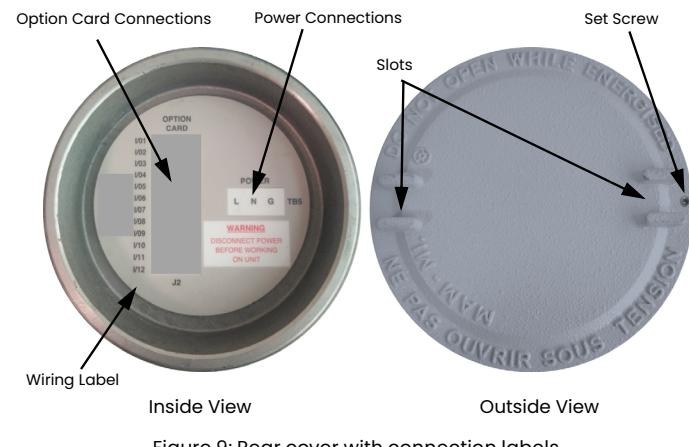
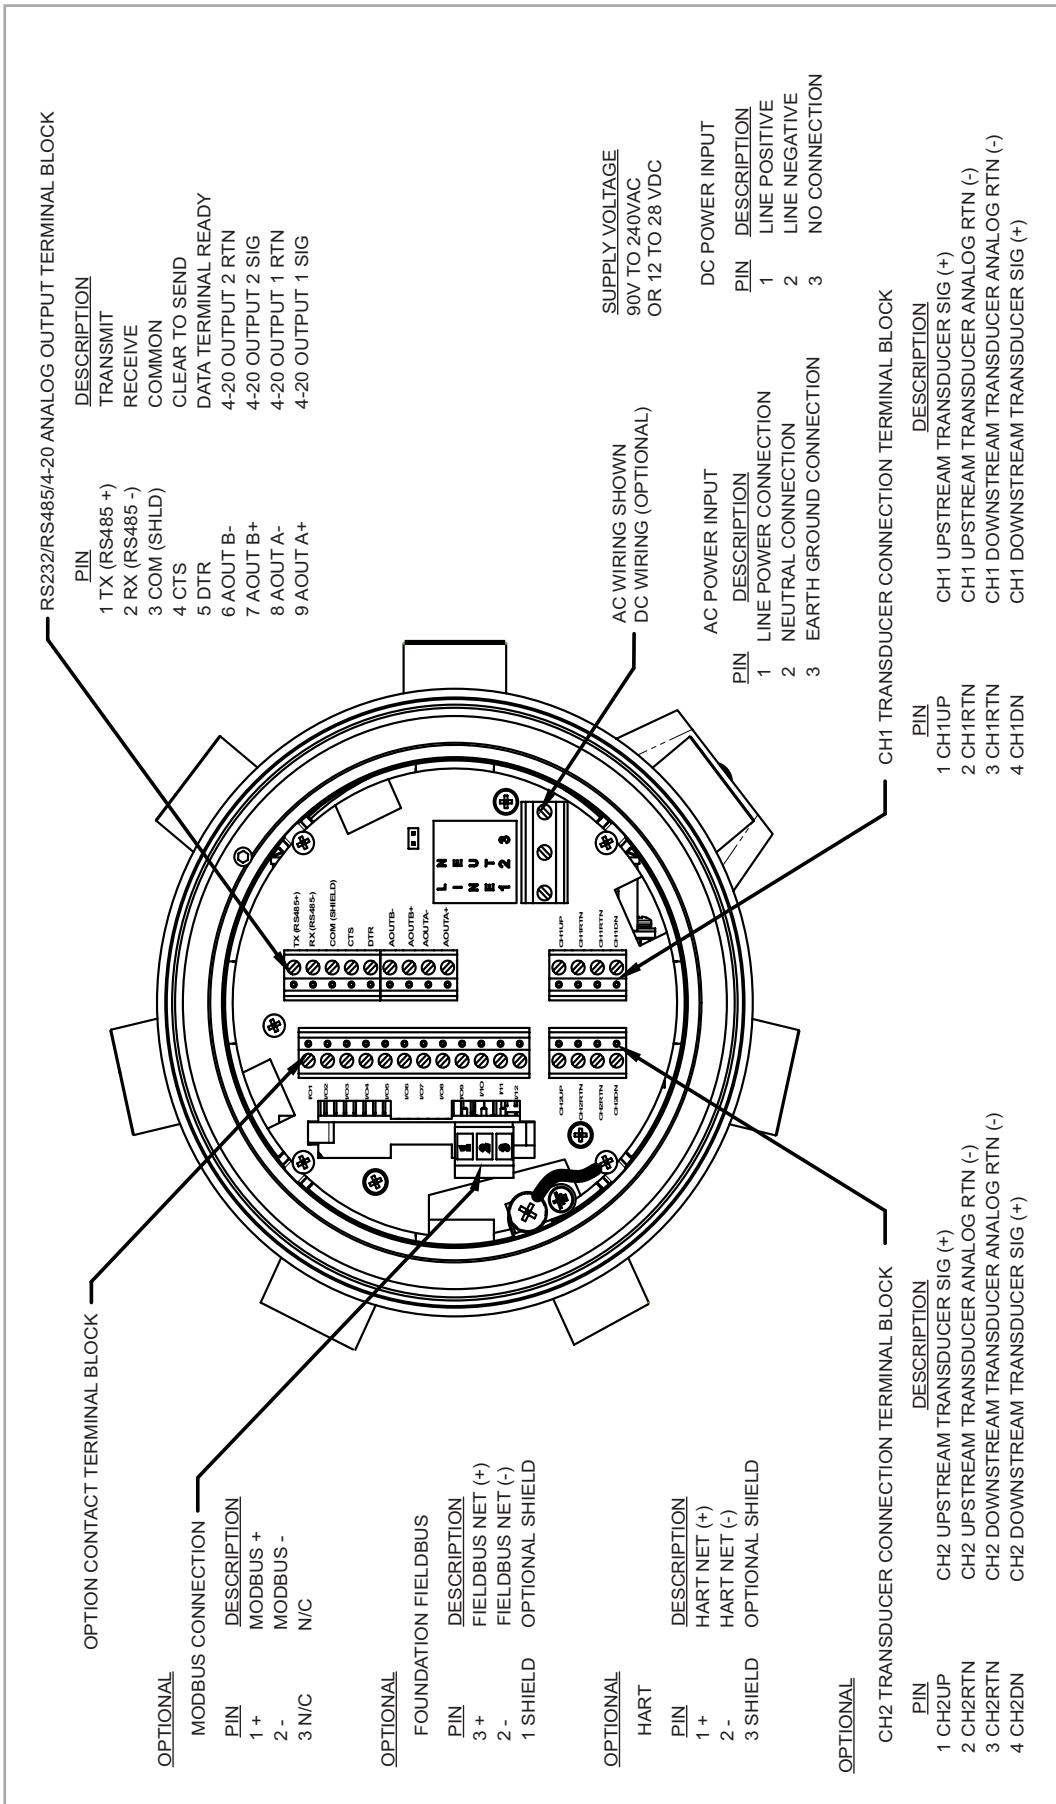

Figure 9: Rear cover with connection labels
Figure 13: Transmitter electronics - wiring diagram (ref. dwg. #702-1846)
To prepare the *PanaFlow ZIG/Z2G Process Gas Flowmeter* for wiring, refer to Figure 9 below, and complete the following steps:
Refer to *Figure 13 on page 14* to locate the correct terminal block, and connect the line power as follows:
4. Route the cable through the conduit hole and connect the line power leads to the terminal block, using the pin number assignments shown in *Figure 13 on page 14*.
3. Refer to Figure 13 on page 14 to locate the correct terminal block, and wire the analog outputs as shown. Secure the cable clamp.
Refer to Figure 13 on page 14 to locate the correct terminal block, and wire the RS485 serial port as follows:
3. Locate the 12-pin terminal block in Figure 13 on page 14 and wire the option card as indicated on the label inside the rear cover (see Figure 9 on page 7). Secure the cable clamp.
Before making any connections, complete the steps in "Making the Electrical Connections" on page 10. Then, wire the analog inputs as shown on the label in the rear cover (see Figure 9 on page 7).
The PanaFlow ZIG/Z2G Process Gas Flowmeter RTD inputs option card provides two or four direct RTD inputs (designated as A, B, C and D). Each RTD input requires three wires, and should be connected as shown on the label in the rear cover (see *Figure 9 on page 7*).
To connect the HART interface, refer to *Figure 13 on page 14* and proceed as follows:
To connect the Foundation Fieldbus interface, refer to *Figure 13 on page 14* and proceed as follows: